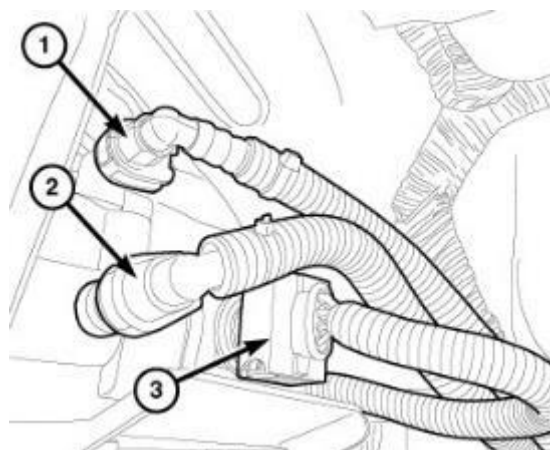

Figure 23 – Inlet and Outlet Lines
57. Disconnect the fuel filter/water separator outlet fuel line (1) (Figure 23).
58. Disconnect the fuel filter/water separator inlet fuel line (2) (Figure 23).
59. Disconnect the combination fuel heater/temperature sensor wire harness connector (3) (Figure 23).